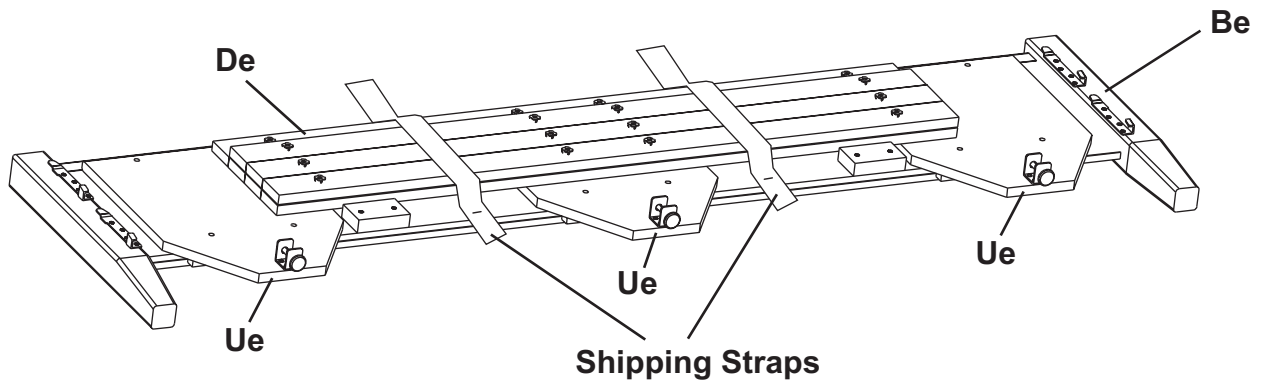

Fig. 1
1. Remove the Trestles (De) and Foot Assemblies (Ue) from the back of the Footboard (Be) and place them off to the side. See Figure 1.